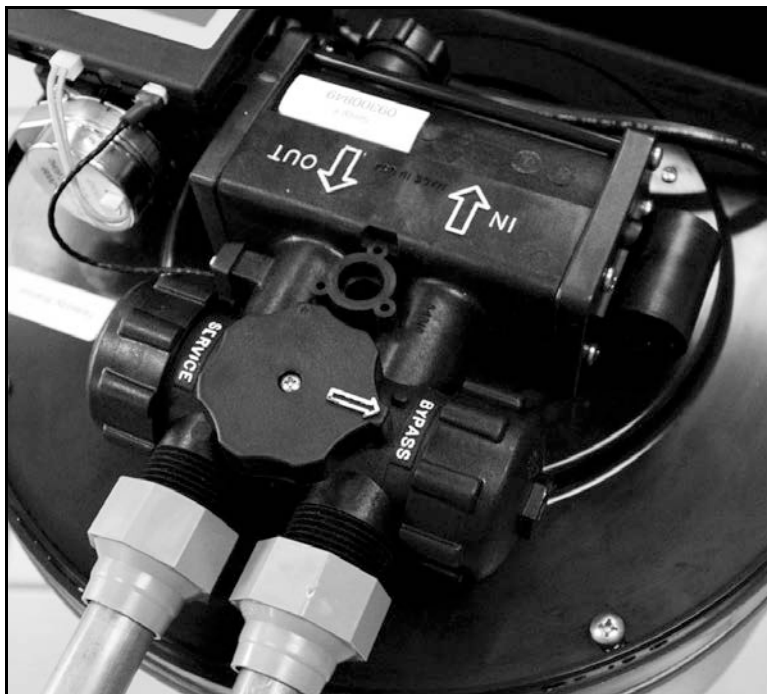

Figure 6: Bypass Valve
- E. Check the arrows on the bypass valve to ensure that the water flows in the proper direction. See Figure 6.
The bypass valve is attached to the main control valve. See Figure 6. To engage the bypass valve, turn the knob to the Bypass position. The appliance will be bypassed and all water to the home is raw, untreated water. To prevent untreated water from entering the home, water should not be used inside the home when the appliance is in Bypass mode. Ensure that the appliance is returned to Service mode when the appliance is repaired or the use of untreated water is complete by turning the knob to the Service position.